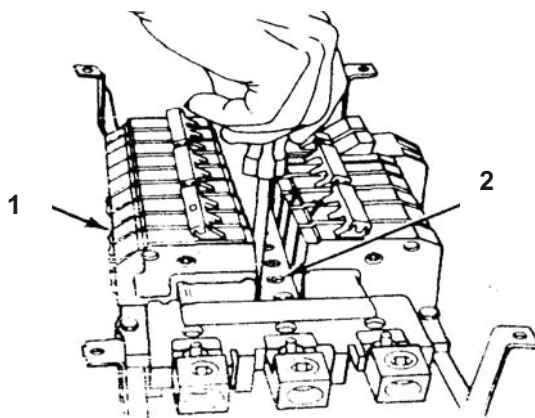

Figure 1. DISE Circuit Breaker (1 of 2)
3. Tag and disconnect internal wiring from circuit breaker (Figure 1, Item 1).
4. Loosen screws (Figure 1, Item 3) securing circuit breaker (1) to bus bar assembly (Figure 1, Item 2).